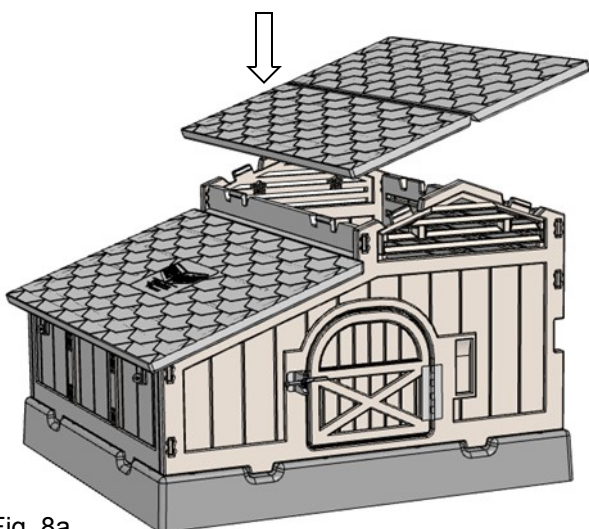
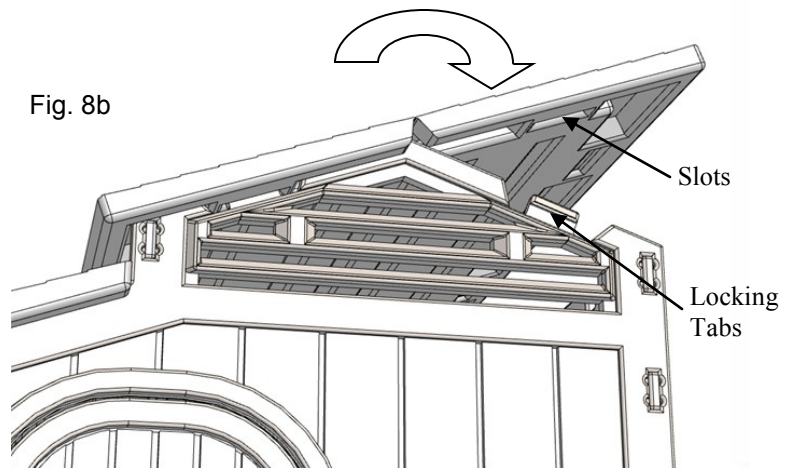
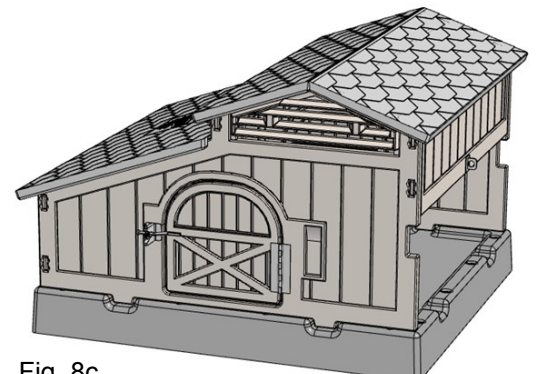

Fig. 8a
Fig. 8b
Fig. 8c
Step 8: The Hip Roof is installed by aligning four of locking tabs (one on the Front Wall, one on the Back Wall, two on the Lid Roof) to the four slots located on one side of the underneath of the Hip Roof and pressing down until all the tabs lock into place (Fig. 8a). Then press down on the other side of the Hip Roof (Fig. 8b), folding it down, until the other four tabs lock into the appropriate slots. (Fig. 8c)